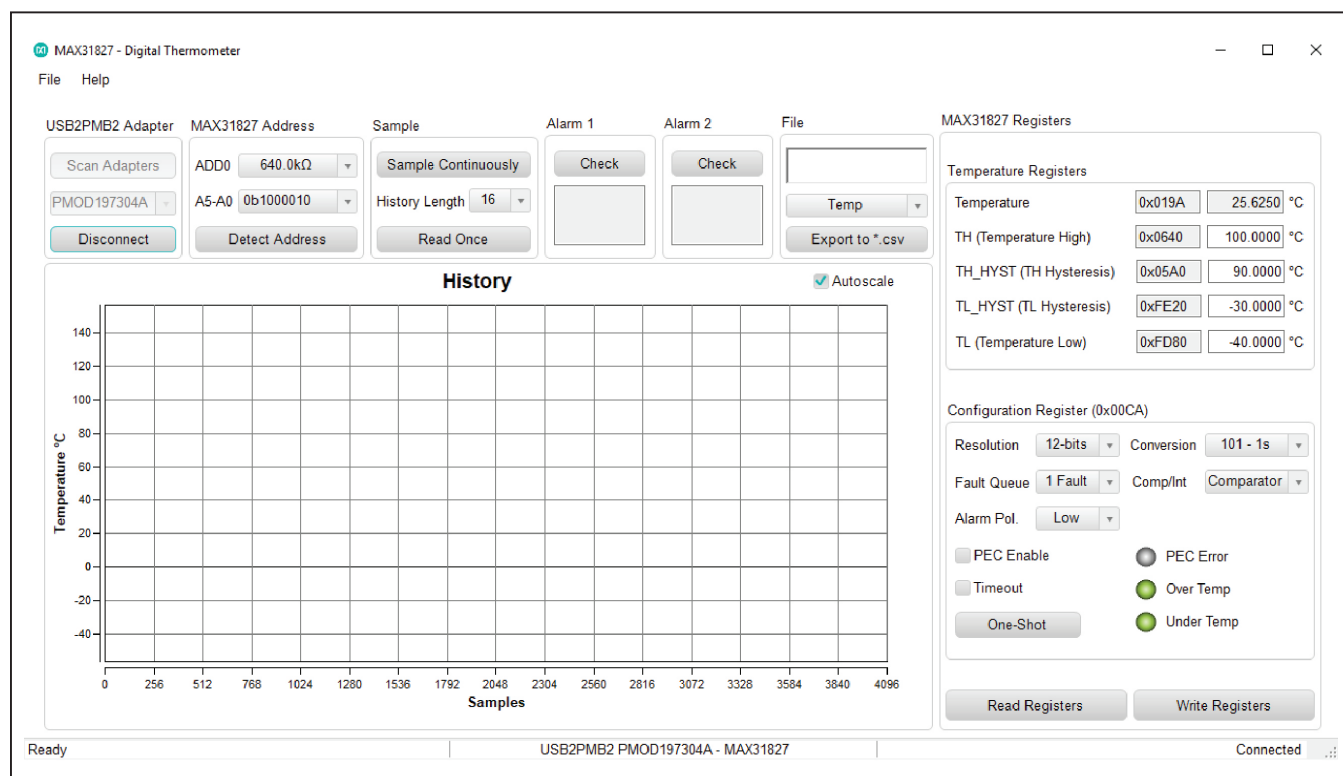

Figure 2. MAX31827 Main Window
- 5) Open the EV kit GUI, MAX31827EVKit.exe (Figure 2).